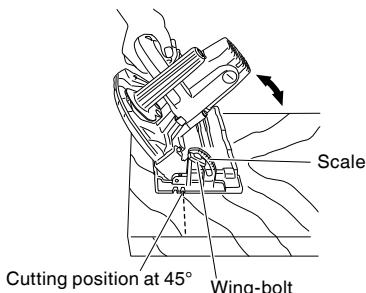
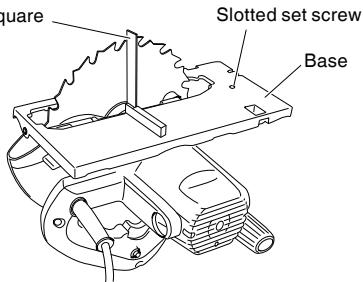

Fig. 5
Fig. 9
By loosening the wing bolt at the scale, the saw blade can be tilted up to maximum angle of 45° against the base (Fig. 5).
The angle of inclination can also be regulated by loosening the wing bolt at the scale (Fig. 5).
- (1) Turn the base face up (Fig. 9) and loosen the wing-bolt (Fig. 5).
- (2) Apply a square to the base and the saw blade and turning the slotted set screw with a slotted-head screwdriver, shift the position of the base to produce the desired right angle.